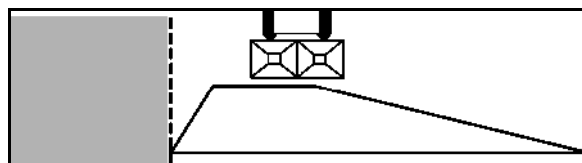

Fig. 60
1. Boundary spreading in accordance with fertiliser ordinance (Fig. 60):